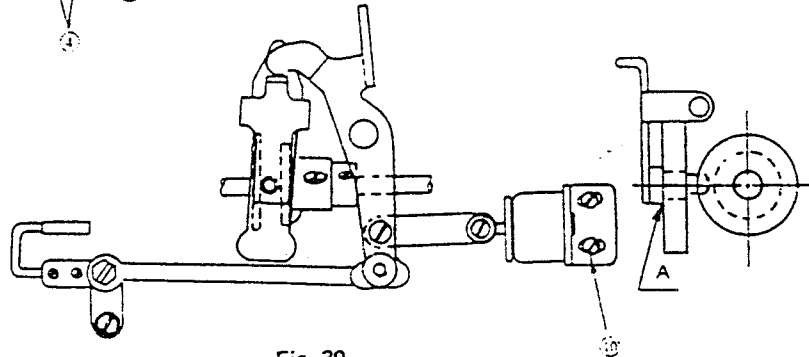

Fig. 30
The thread trimmer solenoid stroke is 6 mm (0.236"). Position the clutch disc and solenoid so that, when the thread trimmer solenoid is actuated, clearance A becomes 0.1 mm (0.004") to 0.5 mm (0.019"). Then tighten setscrews ⑩ (Fig. 30).